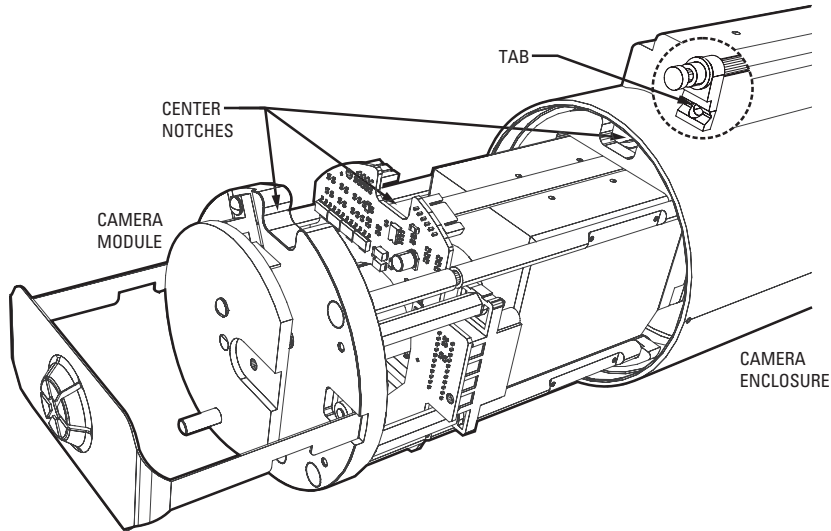
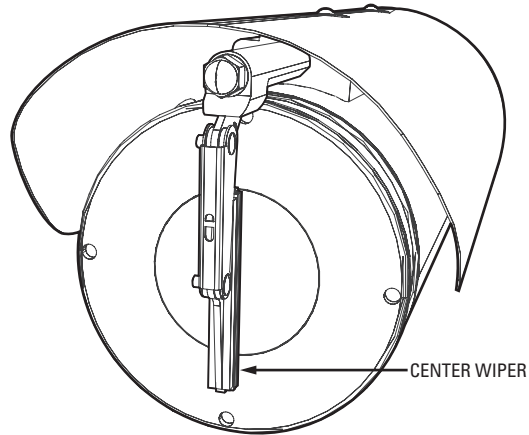

Figure 6. Install Camera Module
Figure 7. Center Wiper
- Slide the camera module into the enclosure. Refer to Figure 6 to position the camera module properly in the enclosure. Carefully mate the camera's power connector to the mating connector located inside the enclosure.
Models with a wiper: The tab located inside the enclosure must be pointing down before installing the camera module (refer to Figure 6). To position the tab, place the wiper located at the front of the enclosure in the center of the viewing window (refer to Figure 7).